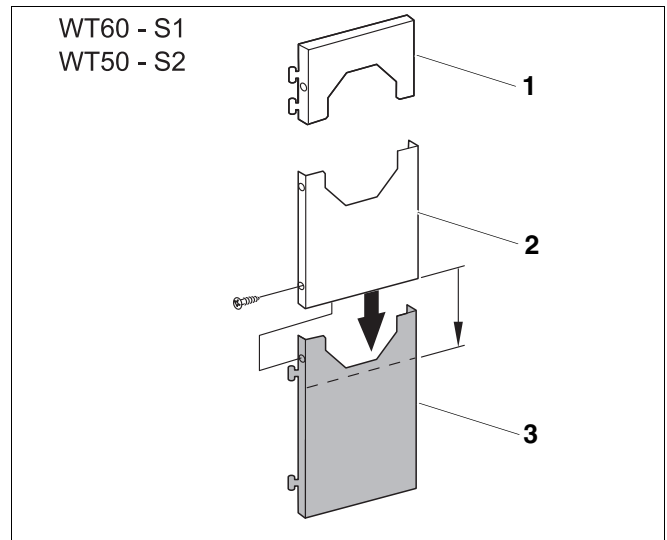

Fig. 15 Preassembling front panel (WT60-S1 and WT50-S2)
- Preassemble lower front panel and screw together using 2 self-tapping screws (Fig. 15).
- Push lower edge of part shown (Fig. 15, **Item 2**) over the inner part (Fig. 15, **Item 3**) up to the dotted line, until the holes in the folded edge overlap.